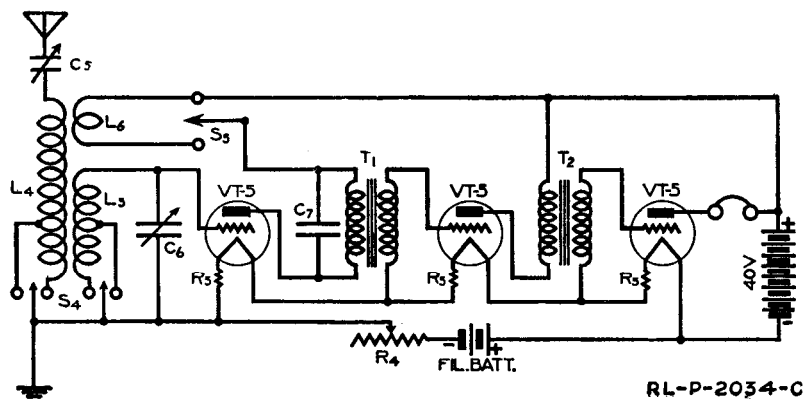

Fig. 88.—Wiring diagram of receiver connections in the SCR-130 set.
The receiver of the SCR-130 is of the inductively coupled type. In addition to the primary and secondary receiving coils a third coil is provided in the plate circuit of the detector for the reception of continuous wave signals. This third coil is the *tickler coil*. When it is desired to receive spark signals the tickler coil is cut out of the circuit by means of a switch marked "Spk.-Het." located on the panel of the set box. The abbreviation "Het." stands for "Hetrodyne," meaning that the circuit is adjusted for continuous wave reception. (See Fig. 88.)
The primary circuit is tuned by adjusting the variable condenser, which is in series with the primary coil, and by adjusting the amount of inductance in the primary coil. The primary coil has one tap, which is connected to a switch on the panel of the set box. (See S₄, Fig. 88.) When the switch is thrown to "SW" (short wave) only part of the coil is in use, and when thrown to "LW" (long wave) the entire coil is in use. The secondary circuit is tuned by adjusting the variable condenser, connected across the secondary coil. In a later model of this set box the secondary coil also has one tap, which is connected to the same switch provided for the primary coil. (See S₄, Fig. 88.) This is so arranged that when the switch is in the position "S. W" only parts of each of the primary and secondary coils are in use. When it is in the "LW" position the entire circuits of the primary and secondary coils are in use.
3. Observe the various receiver parts mounted back of the set box panel. As far as possible trace the wiring of the receiver, using the wiring diagram shown in Fig. 88.